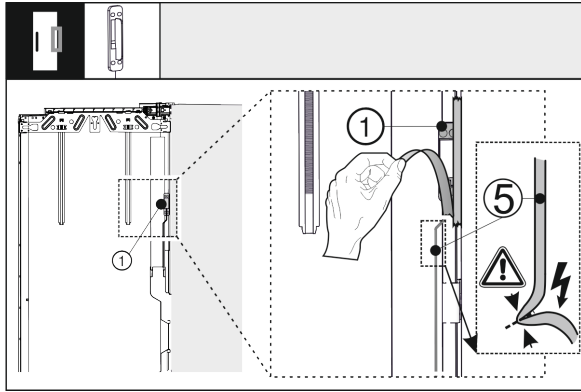

Fig. 40
- ▶ Remove the knocking sensor Fig. 40 (1) from the outer door. Do not damage the connection cable Fig. 40 (5).